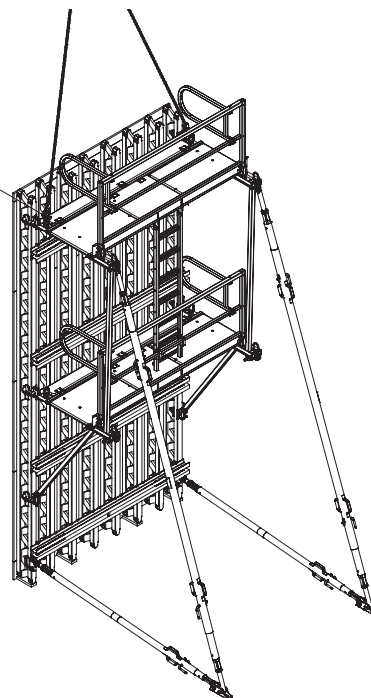

Fig. B2.21
2. Secure formwork unit, e.g. with PERI Anchor Bolts 14/20 x 130 or similar. (Fig. B2.21)